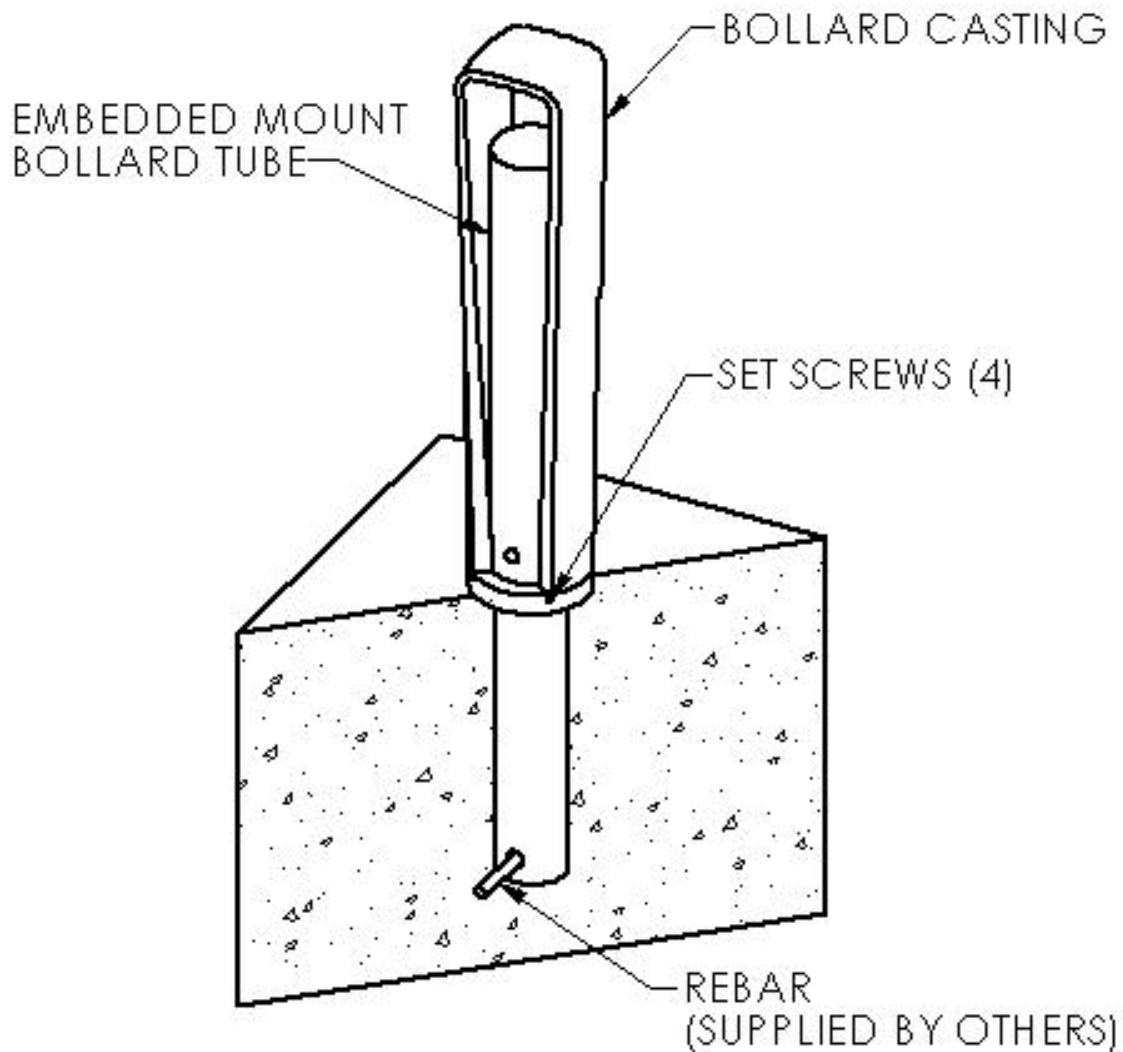

Figure 1: Embedded Mount Bollard Components
3. Place a section of rebar (supplied by installer) through the hole near the bottom of the bollard (see Figure 1).
Bollards include the following components (see Figure 1):